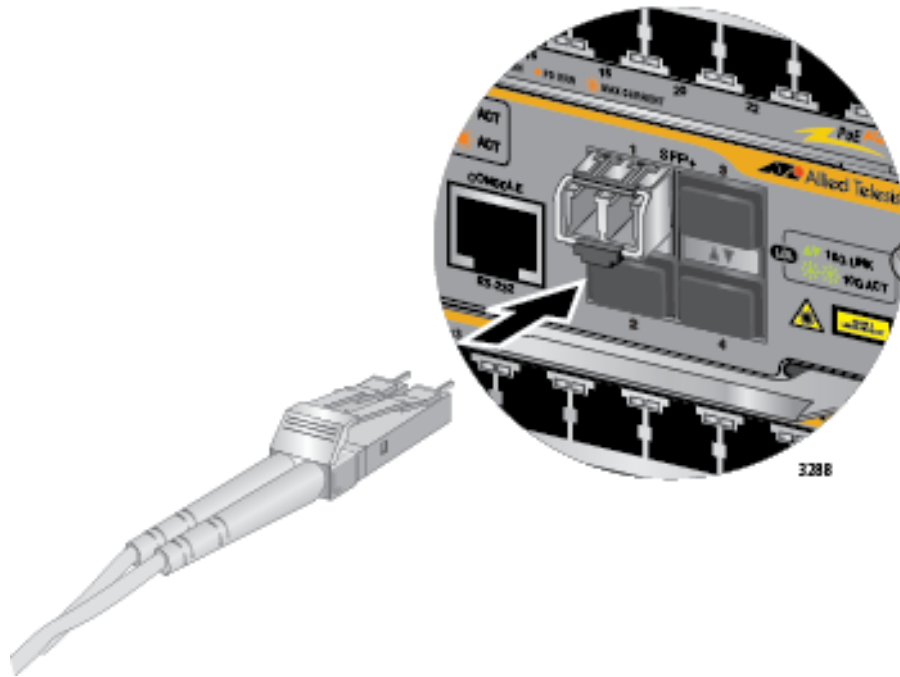

Figure 120. Attaching a Fiber Optic Cable to an SFP+ Transceiver in the AT-SBx81CFC960 Controller Fabric Card
6. Connect the fiber optic cable to the port on the transceiver, as shown in Figure 120 on page 198. The connector should snap into the port.